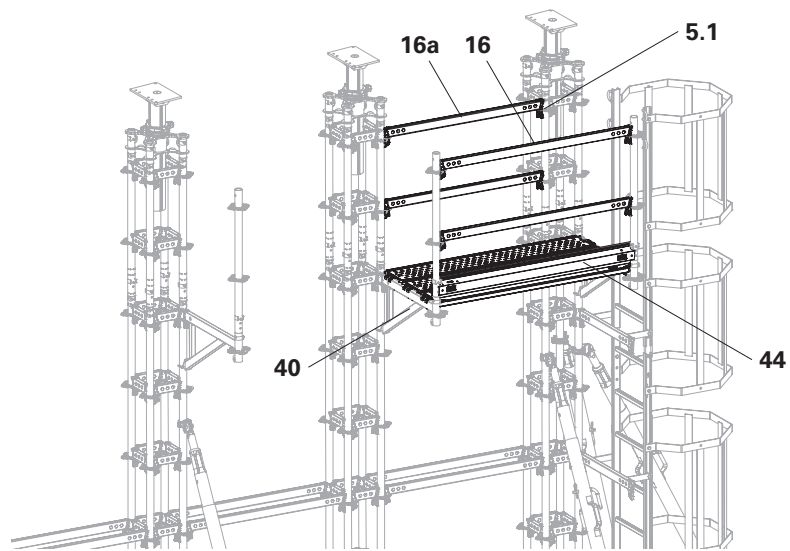
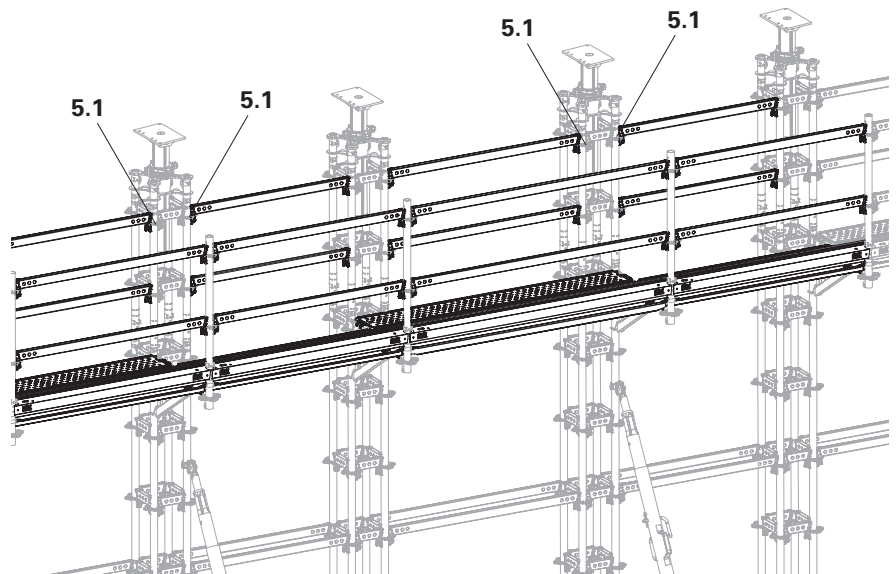

Fig. A6.17
Fig. A6.18
The rosettes (**5.1**) of the standards that are on the level of the work platform and only the Heavy-Duty Props HD that are held with at least one Push-Pull Prop RS. (Fig. A6.17 and Fig. A6.18)
2. Mount the horizontal ledgers (**16**) on the guardrail posts as anti-fall protection and attach the Toe Board Steel UPY (**44**) (Fig. A6.17)
3. Fit additional steel decks (**43**), horizontal ledgers (**16a**) and Toe Boards UPY (**44**). (Fig. A6.18)